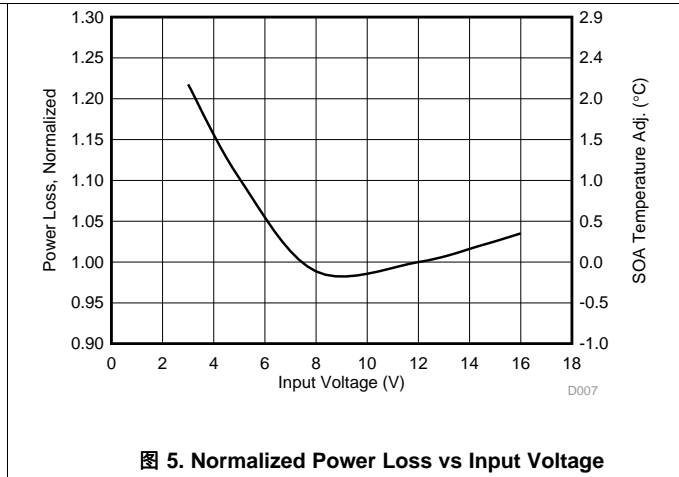

图 5. Normalized Power Loss vs Input Voltage
- Normalized power loss for input voltage ≈ 1.1 (图 5)
- SOA adjustment for input voltage $\approx 1.0^\circ\text{C}$ (图 5)